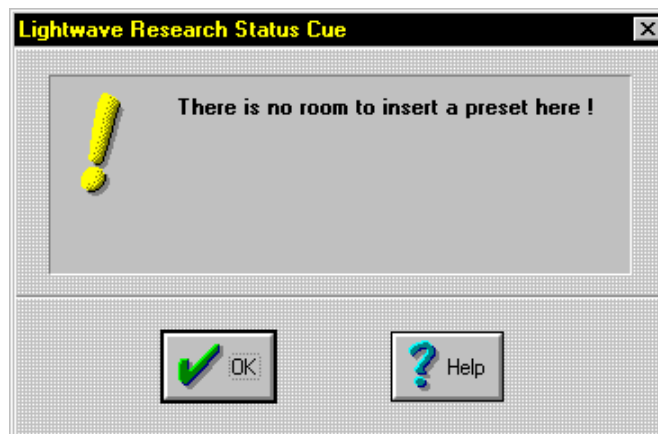

Figure 7.8. Insertion Error Dialogue Box
3. Press the desired **Instant Preset** (Figure 7.4) or **Fader Preset** (Figure 7.5) key on the console to insert (set) the Scene or Sequence into. Alternately, click the desired Preset in the **Insert a preset in Song** dialogue box. The Preset will be inserted and all other Presets will be shifted over. If the Preset can not be inserted (meaning all Presets are full) an insertion error dialogue box is brought up. Refer to Figure 7.8.